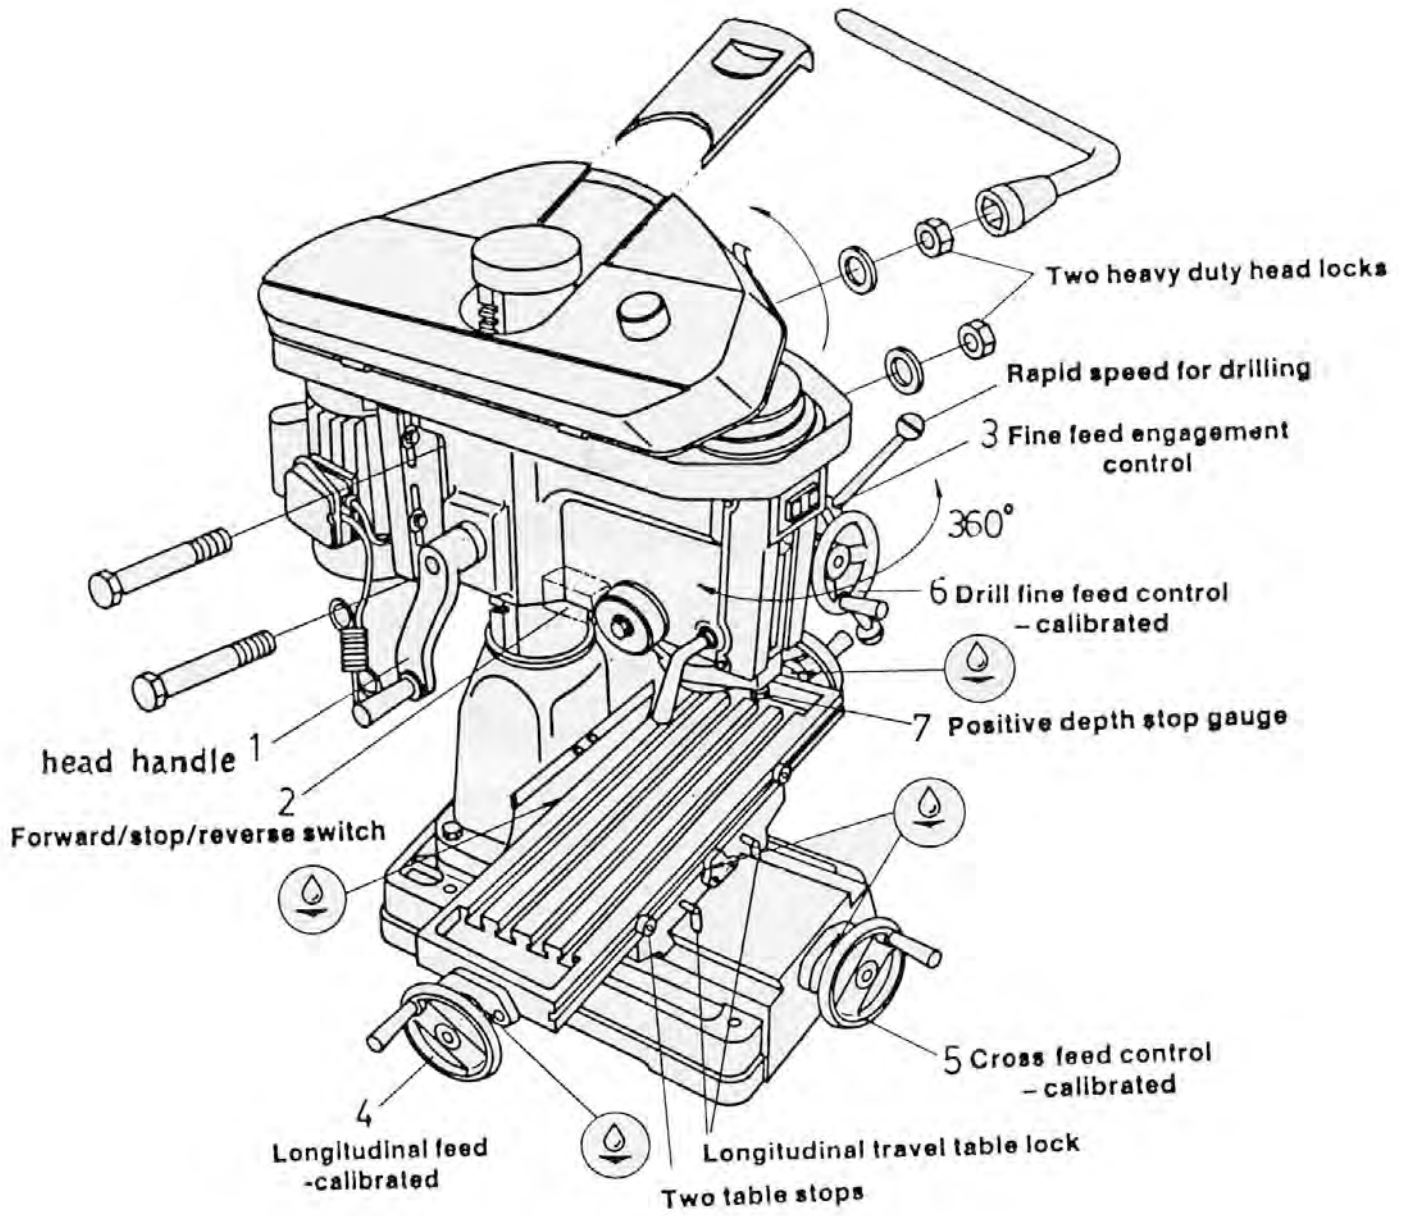

Fig. 1
- (1) Your machine has been coated with a heavy grease to protect it in shipping. This coating should be completely removed before operating the machine. Commercial degreaser, kerosene or similar solvent may be used to remove the grease from the machine, but avoid getting solvent on belts or other rubber parts.
- (2) After cleaning, coat all bright work with a light lubricant. Lubricate all points in Fig. 1 with a medium consistency machine oil.
- (3) Lubricating points as shown in arrows.
5. USE OF MAIN MACHINE PARTS (See Fig. 1)
(2) After Operation
(3) Adjustment of Head
- (a) To raise and lower the head, loosen the two heavy duty head lock nuts shown in Fig. 1. Use the left side head handle to raise and lower the head on its rack and pinion mechanism. When the desired height is reached, tighten the bolts to avoid vibration.